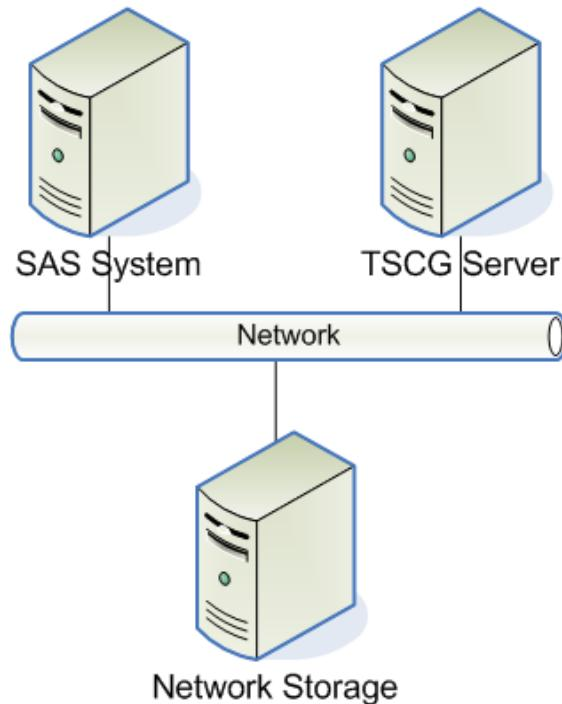

Figure 1.1: TSCG/SAS Environment.
Environment For the following example, the environment is shown in Figure 1.1.
- Persistent storage (diagrammed as a network attached device in Figure 1.1) but can be on the SAS or TSCG system.